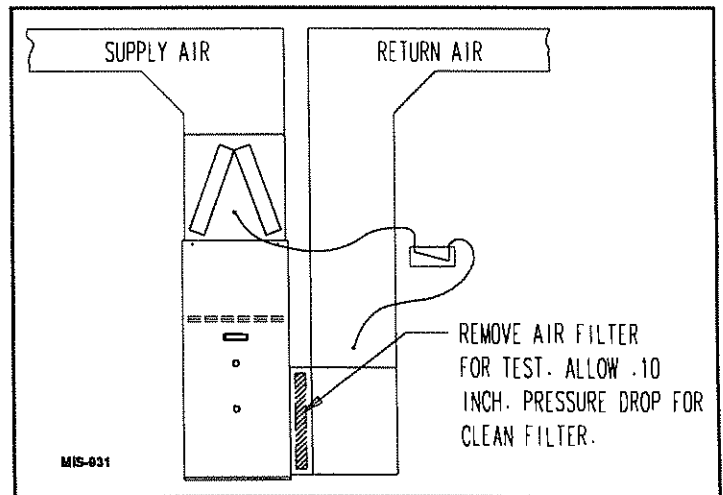

FIGURE 17 – MEASURING DUCT SYSTEM STATIC PRESSURE
7. Insert one static pressure tap into supply air transition duct between furnace and cooling coil or in the supply air plenum for heating only systems. Connect this pressure tap to positive pressure side of slope gauge. See Figure 17.
8. Insert other static pressure tap in return air plenum. Connect this pressure tap to negative pressure side of slope gauge. See Figure 17.